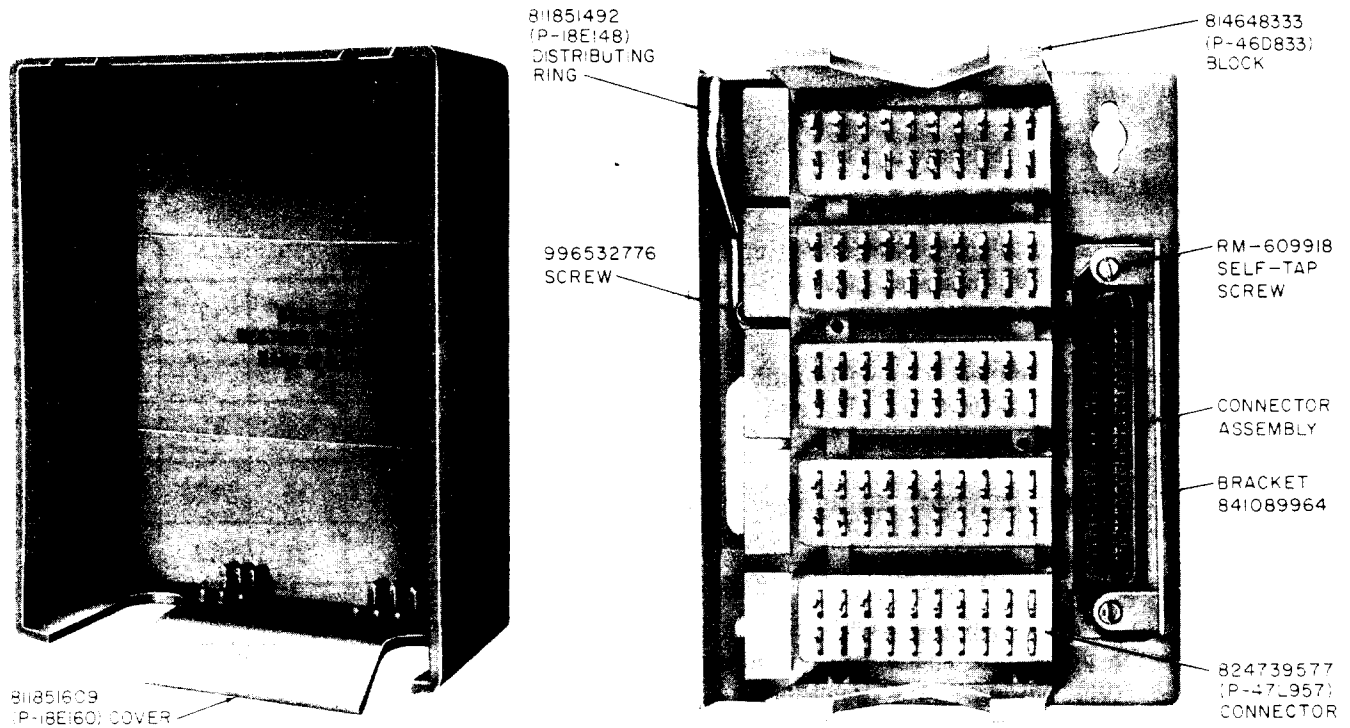

Fig. 1—66E3-25 Connecting Block
2.04 The 66E3-25 connecting block (Fig. 1) is equipped with a molded plastic housing incorporating a snap-on cover and a cable trough in the base. The block should be mounted on a firm flat surface. Provisions are also made for mounting the block to a standard wall outlet box or overfloor duct by using a 152A adapter.
2.08 A new bracket design has been incorporated on the 66E3-25 and 66E4-25 connecting blocks for attaching both the low and high silhouette plug or connectors. The new bracket 841089964 (Fig. 1), which contains a diagonal slot, replaces the present P-21E608 bracket. The new slot provides improved retention of the connector and plug to eliminate accidental disengagement resulting from external movement of the cord or connector cable.
3.05 On 66E3-25 and 66E4-25 connecting blocks, field replacement of the old retainer bracket (P-21E608) with the new retainer bracket (841089964) can be accomplished by removing two easily accessible RM-609918 button-head self-tapping screws (Fig. 1), removing the old bracket, installing the new bracket, and replacing the two screws. Attach retainer to bracket with 824634729 (P-46L472) RD washerhead screw.